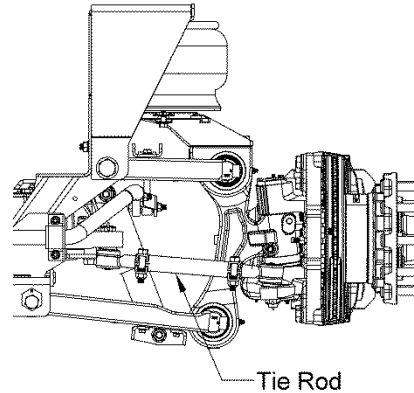

Figure 6 - Tie Rod
1. With the engine on, lightly rock the steering wheel and have an assistant observe any looseness in the two mating tapers or any movement of the stud nut at both ends of the tie rod. (Figure 6). If looseness is found in either place go to step 2, otherwise skip to step 3.
3. With the engine off and the wheels steered straight ahead, grab the tie rod near its end and try to move the socket in a direction parallel to the ball stud axis (Figure 6). Be sure to only apply hand pressure to the tie rod.
6. Check tie rod clamp orientation (Figure 6)